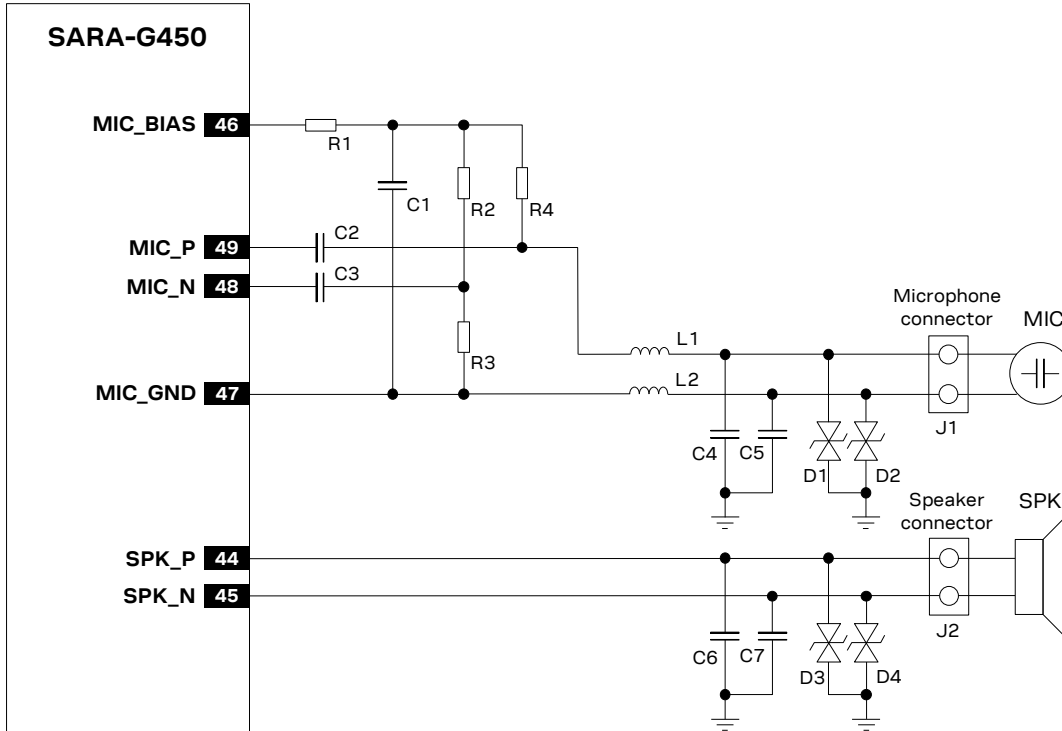

Figure 69: Analog audio interface application circuit
Figure 69 shows an application circuit for the analog audio interface, connecting a 2.2 k Ω electret microphone and a 32 Ω receiver / speaker:
As in the example circuit in Figure 69, follow the general guidelines for the design of an analog audio circuit:
- Provide an appropriate series capacitor at both **MIC_P** and **MIC_N** analog uplink inputs for DC blocking (as the C2 and C3 100 nF Murata GRM155R71C104K capacitors in Figure 69). This provides a high-pass filter for the microphone DC bias with a corresponding cut-off frequency according to the value of the resistors of the microphone supply circuit. Then connect the signal lines to the microphone.
- Mount an 82 nH series inductor with a Self-Resonance Frequency \sim 1 GHz (e.g. the Murata LQG15HS82NJ02) on each microphone line (L1 and L2 inductors in Figure 69).
- Mount a 27 pF bypass capacitor (e.g. Murata GRM1555C1H270J) from each microphone line to solid ground plane (C4 and C5 capacitors in Figure 69).
- Mount a 27 pF bypass capacitor (e.g. Murata GRM1555C1H270J) from each speaker line to solid ground plane (C6 and C7 capacitors in Figure 69).
- Provide additional ESD protection (e.g. Bourns CG0402MLE-18G varistor) if the analog audio lines will be externally accessible on the application device, according to EMC/ESD requirements of the custom application. Mount the protection close to accessible point of the line (D1-D4 in Figure 69).